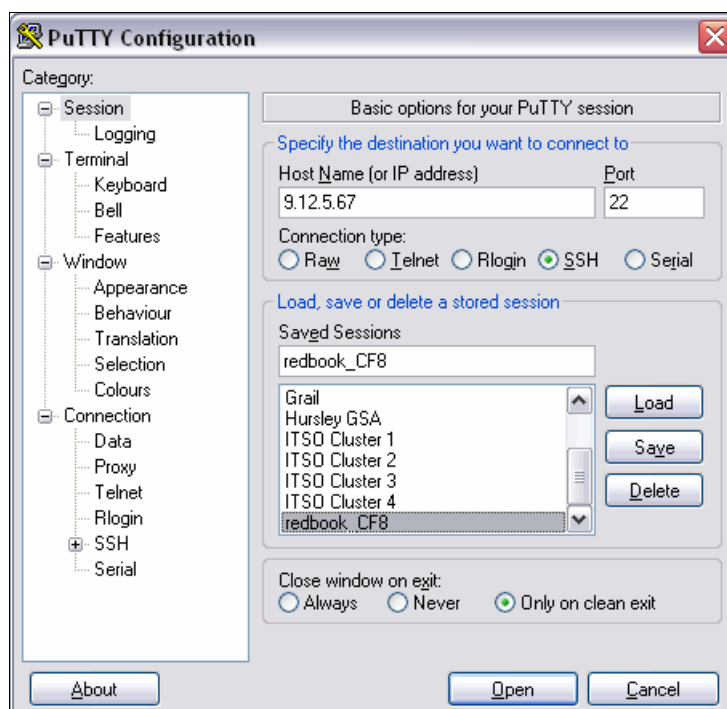

Figure 9-6 Specifying the IP address
- The IP address of the Spectrum Virtualize system. To set this parameter, select **Session** at the top of the left pane of the PuTTY Configuration window, as shown in Figure 9-6.